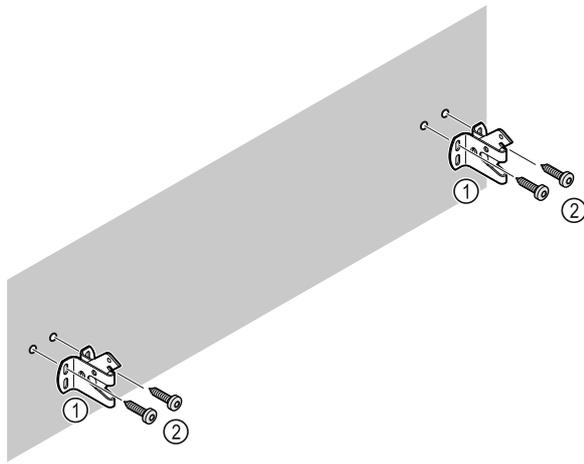

Fig. 10
Use fixing material (e.g. wall anchors) which is appropriate for the nature of the wall (wood, concrete) and sufficient attachment points Fig. 10 (2).
- ▶ Attach retaining hooks. Fig. 10 (1)